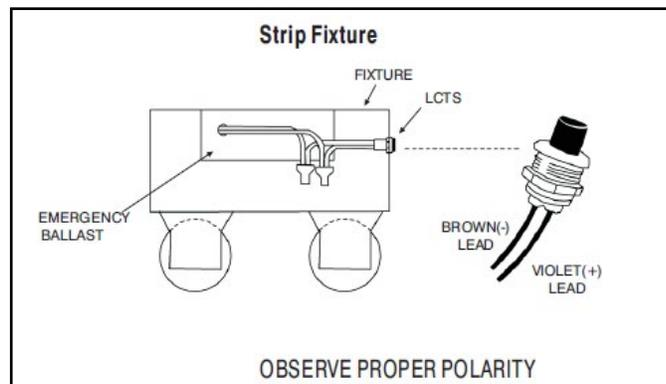

Figure 2
- d. Connect the wires from the unit to the LCTS (VIOLET to VIOLET, BROWN to BROWN). Refer to **Figure 2**.